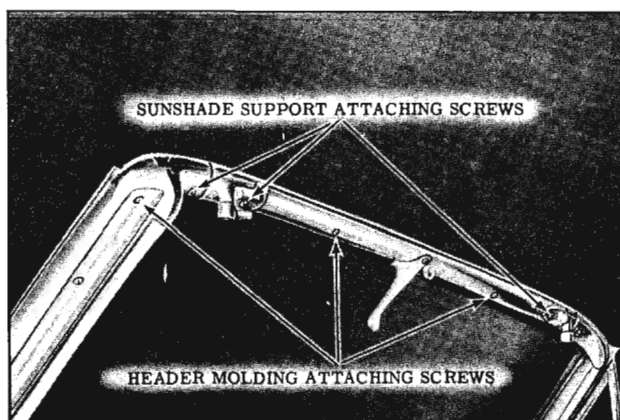

Fig. 16-206 Garnish Molding (67 Styles)
2. Remove rear view mirror support; then remove upper moldings. On "67" styles raise top, remove sunshade supports; then remove end and center moldings. (Fig. 16-206)